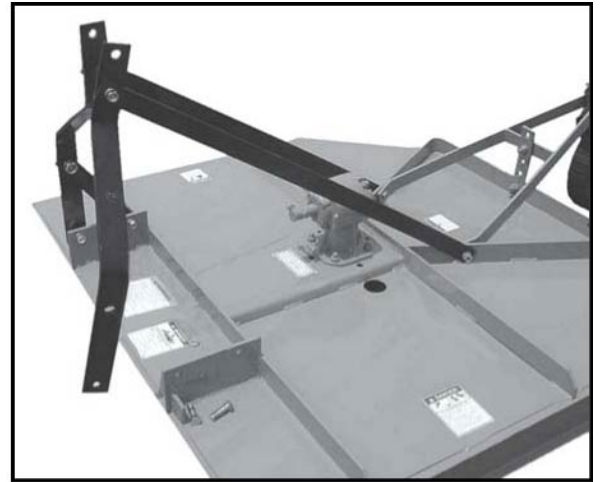

Figure 6
STEP 6 Install the long top mounting bolt by inserting it through the hole in the left side lift arm brace, the lower of the two (2) holes in the left side lift arm, the spacer, the lower of the two (2) holes in the top of the right side lift arm (which should not be attached to the lift arm bracket at this time), and finally through the right side lift arm brace. Install a washer and start the nut on the bolt, but do not tighten it at this time. (See Figure 6, 7 & 8)